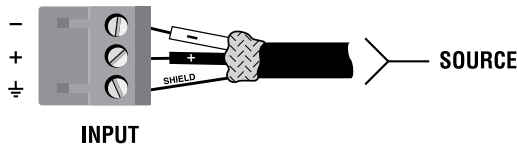
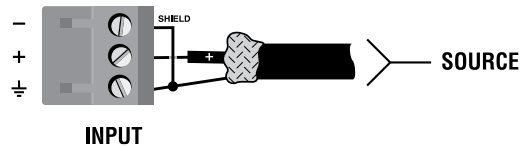

Figure 3: Balanced wiring
Figure 4: Unbalanced wiring
**Figure 3** shows connector pin assignments for balanced wiring and **Figure 4** shows connector pin assignments for unbalanced wiring. Note that for bridged operation, only the odd-numbered input channels (1,3,5,7) should be wired for each bridged pair.